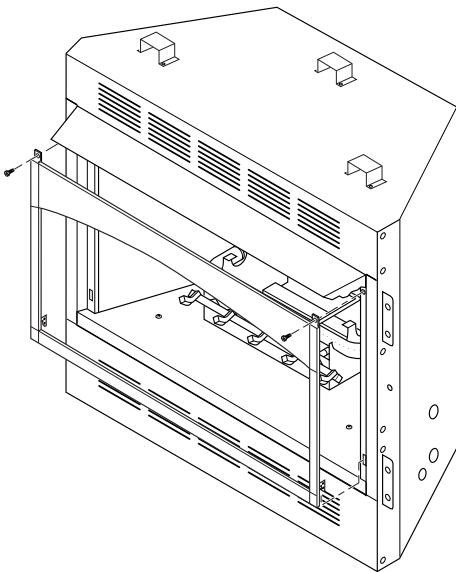

Figure 18 - Removing Front Window Assembly
1. Remove front window assembly. Locate two phillips-head screws at top corners of front window assembly. Remove and save these screws. Carefully lift front window assembly up and out from fireplace front (see Figure 18).